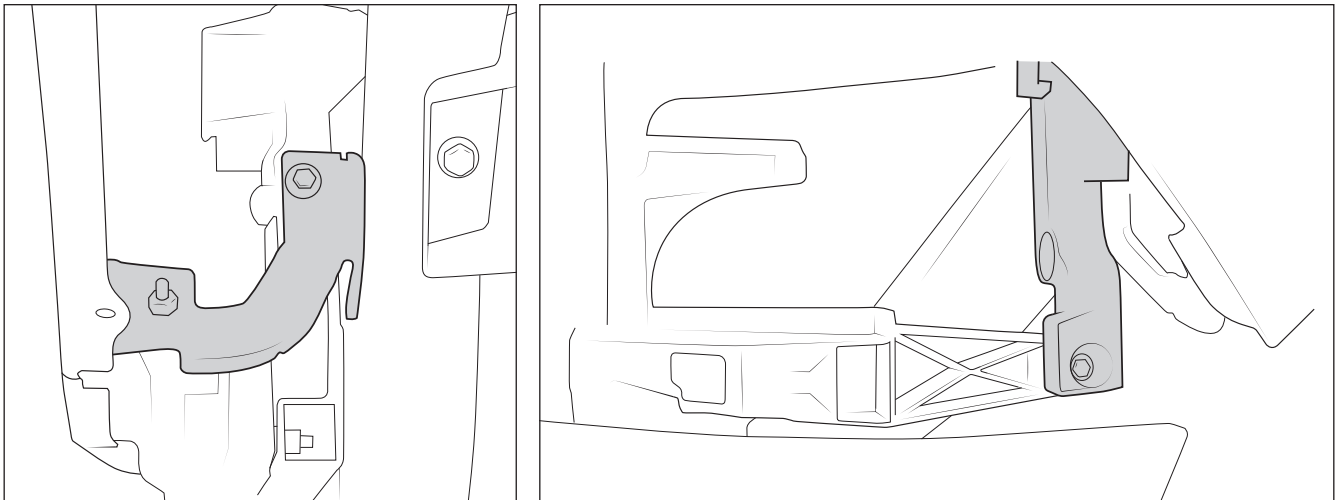

Figure 3
4. Remove headlights and attaching brackets. **SAVE** all hardware (fig. 3).